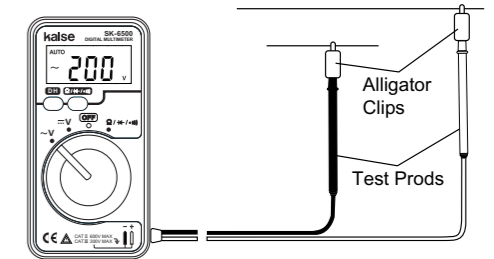

Fig. 1
6. Turn on power to the circuit to be measured and read the voltage on the Multimeter. Refer to the figure 1.